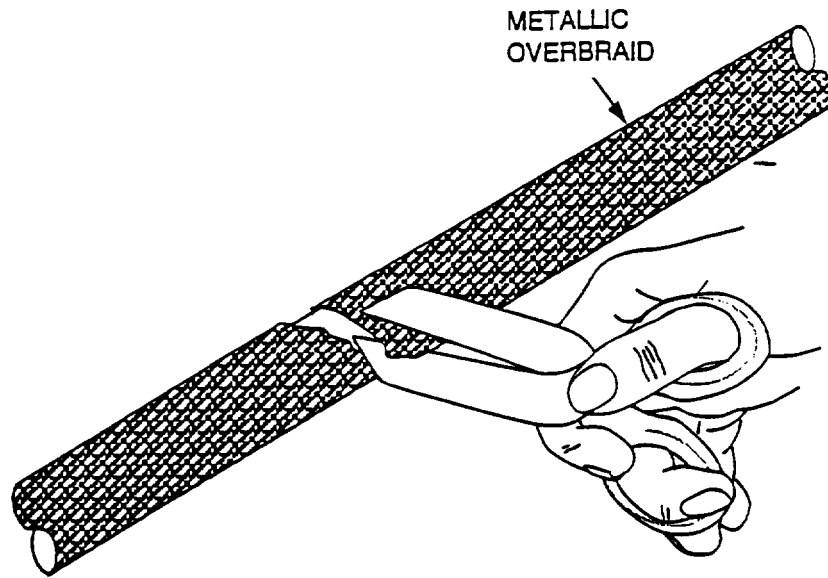

Figure 43. Trimming Metallic Shield
h. Cut temporary lacing cord that secured the metallic overbraid, then milk both ends as close together as possible. Using scissors, trim frayed areas to allow for smooth repair (Figure 43). Using isopropyl alcohol clean and dry metallic overbraid 2 1/2 inches on both sides of damaged area to ensure adhesion of copper foil tape.